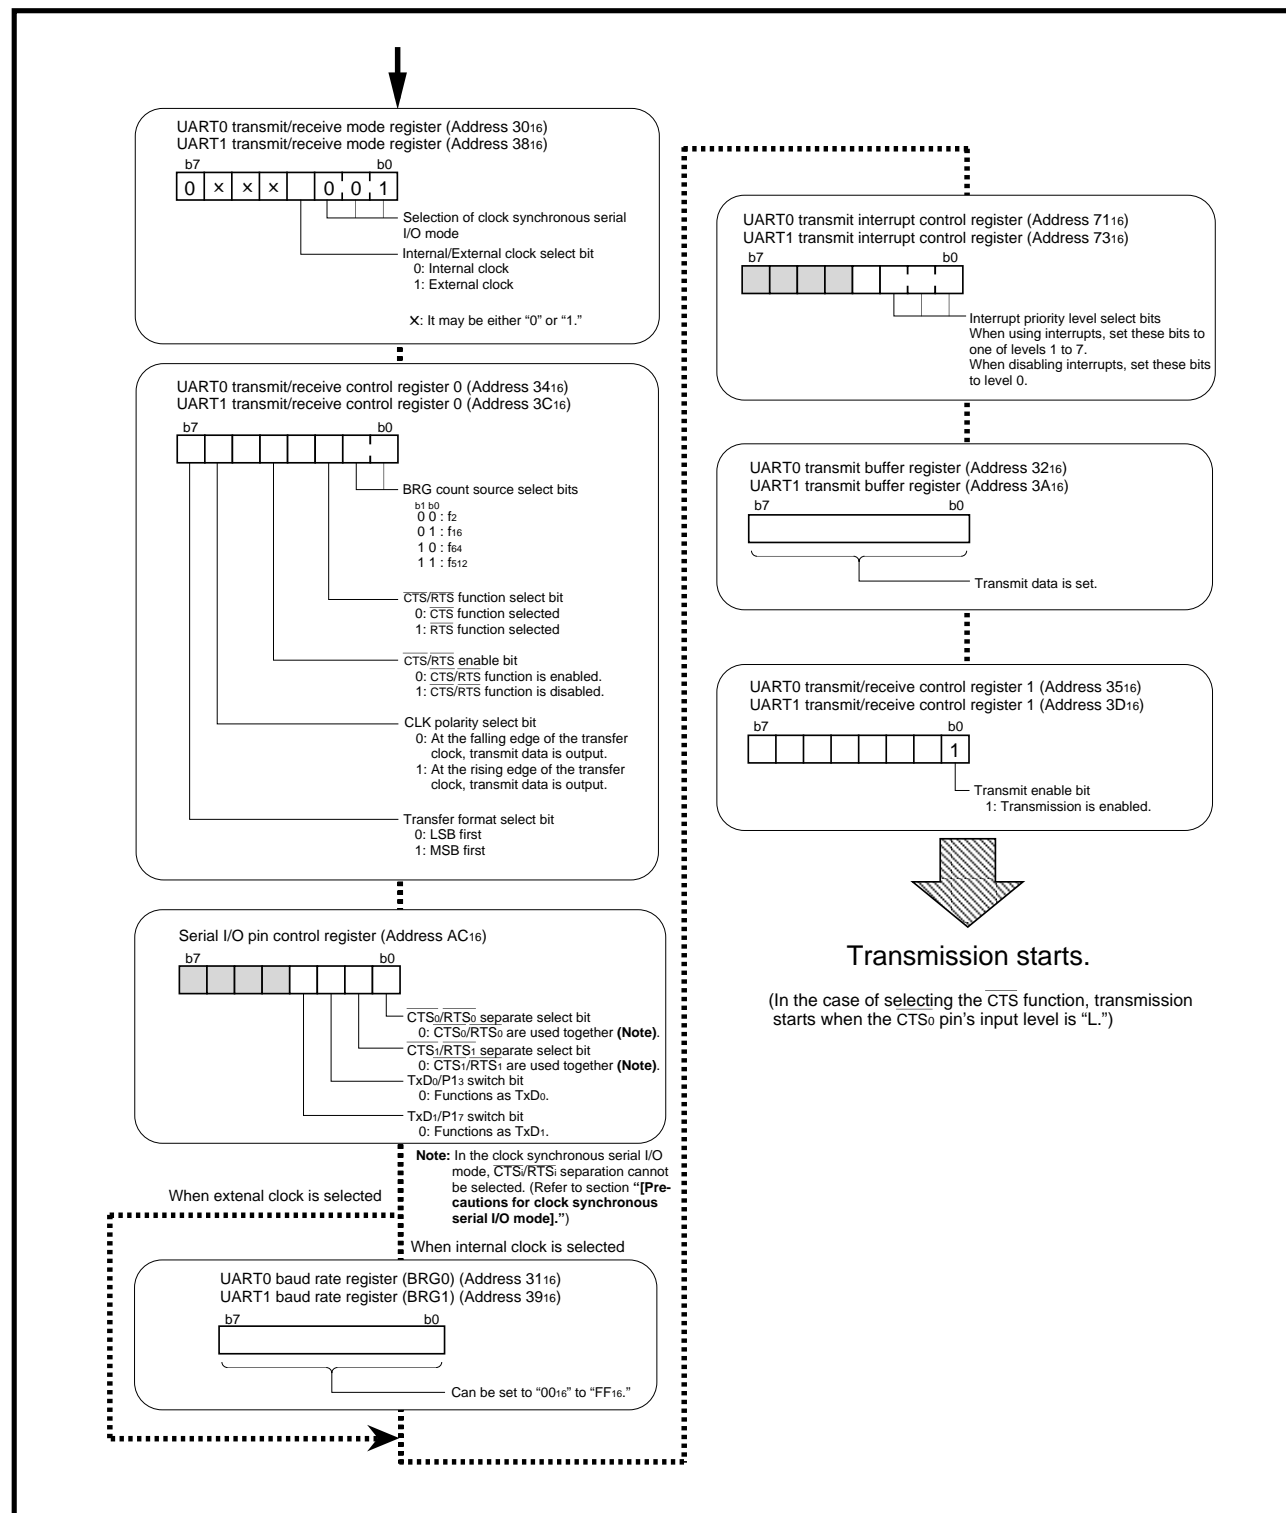

Fig. 11.3.2 Initial setting example for relevant registers when transmitting
Figure 11.3.2 shows an initial setting example for relevant registers when transmitting. Transmission is started when all of the following conditions (① to ③) has been satisfied. When an external clock is selected, satisfy conditions ① to ③ with the following preconditions satisfied.